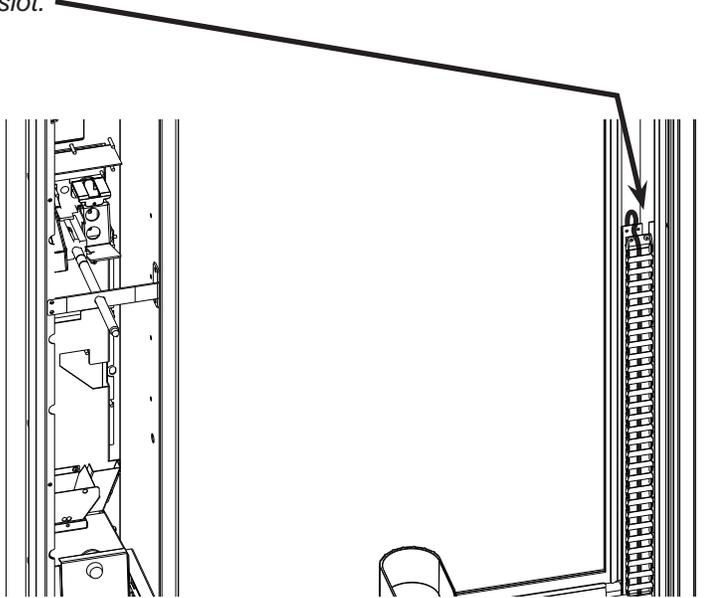

Figure 6.
12. Remove the two nuts that secure the harness chain to the chain guard. (See Figure 6.) **Note:** These two nuts may not be visible without separating the wires.